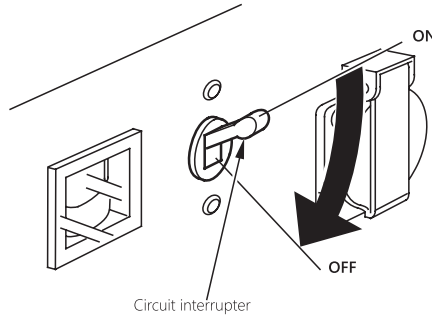

Fig. 4. The AC interrupter
- Attention! Do not connect electric equipment to the generator prior to start-up. Turn the AC interrupter/switch to the position "OFF" (Fig. 4).
- Put the plugs of the electric equipment to the appropriate slots (Fig. 4).
- Turn the switch of the AC equipment to the position "ON" (Fig. 4).